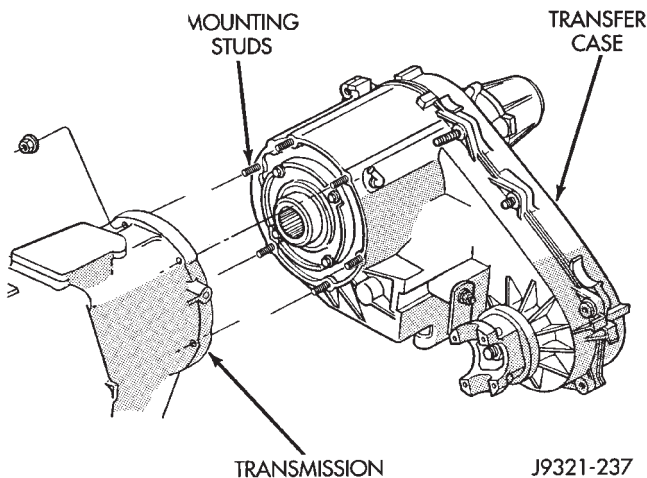

Fig. 2 Transfer Case Mounting
- (1) Shift transfer case into Neutral.
- (2) Raise vehicle.
- (3) Drain transfer case lubricant.
- (4) Mark front and rear propeller shaft yokes for alignment reference.
- (5) Support transmission with jack stand.
- (6) Remove rear crossmember and skid plate, if equipped.
- (7) Disconnect front/rear propeller shafts at transfer case.
- (8) Disconnect vehicle speed sensor wires.
- (9) Disconnect transfer case linkage rod from range lever.
- (10) Disconnect transfer case vent hose (Fig. 2) and indicator switch harness, if necessary.
- (11) Support transfer case with transmission jack.
- (12) Secure transfer case to jack with chains.
- (13) Remove nuts attaching transfer case to transmission.
- (14) Pull transfer case and jack rearward to disengage transfer case.
- (15) Remove transfer case from under vehicle.
- (1) Mount transfer case on a transmission jack.
- (2) Secure transfer case to jack with chains.
- (3) Position transfer case under vehicle.
(4) Align transfer case and transmission shafts and install transfer case on transmission.
(5) Install and tighten transfer case attaching nuts to 35 N·m (Fig. 2).
(6) Connect vehicle speed sensor wires, and vent hose.
(7) Connect indicator switch harness to transfer case switch, if necessary. Secure wire harness to clips on transfer case.
(8) Align and connect propeller shafts. Tighten shaft attaching bolts to 26.5 N·m torque.
(9) Fill transfer case with correct fluid. Refer to Recommended Lubricant And Fill Level section for proper fluid and capacity.
(10) Install rear crossmember and skid plate, if equipped. Tighten crossmember bolts.
(11) Remove transmission jack and support stand.
(12) Connect shift rod to transfer case range lever.
(13) Adjust transfer case shift linkage.
(14) Lower vehicle and verify transfer case shift operation.